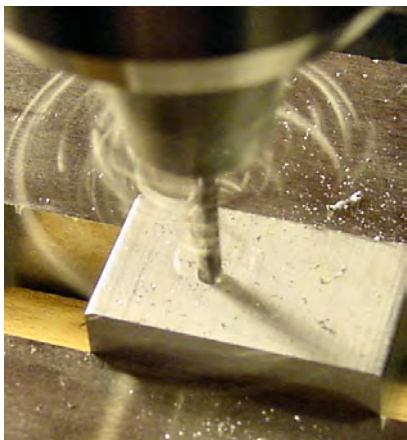

Figure 3-12. Drilling the fixture setscrew hole
3. Place the fixture in the vise with the marked face pointing up (see Figure 3-12).